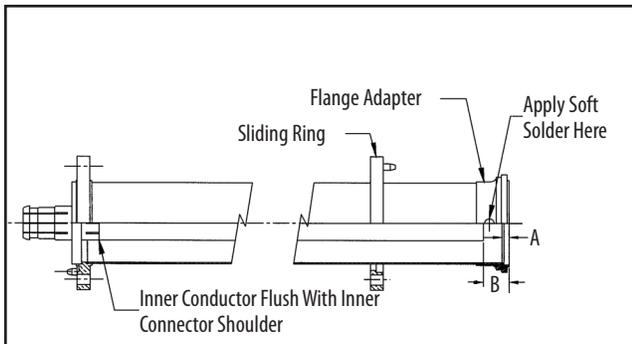

Figure 1.
1. After determining the exact length of transmission line required, deduct the “A” dimension to allow for the flange. This is the cut length. Twice the flange allowance should be deducted if both ends of the transmission line are to be flanged. Remove the inner conductor to protect it from damage. Refer to Figure 1 and Table 1.
6. The inner conductor must be “B” dimension shorter than the outer conductor when the inner conductor is fully seated on the inner connector on the far end of the line section and the fixed ring has been installed on the near end. The “B” dimension allows for thermal expansion. See Table 1 and Figure 1. After cutting the inner conductor to the proper length, using the scribing, cutting and cleaning procedure in the previous steps, replace the inner conductor and assemble the transmission line.